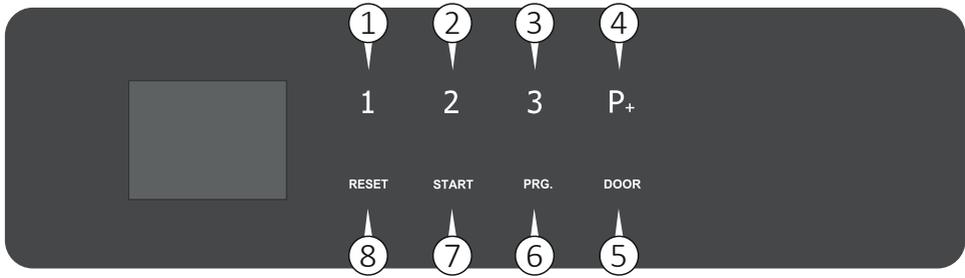

Fig. 15
To select the programs available, use key P1, P2 or P3 (see Fig. 15) depending on the most suitable program for the level of dirt of the load.
- Open the door (key 5 Fig. 15) to introduce the rack/trolley.
- Close the door and push it until the lock is activated. The door can be unlocked and opened at any time before the program starts, by pressing the DOOR key (5 Fig. 15).
To select the programs available, use key P1, P2, P3 or the key P+ (to select programs from 4 to 40) on the control panel (Fig. 15).
To start a program, press the START key (7 Fig. 15).
The message «Finish» with a green background on the display indicates that the program has been carried out correctly. Unlock the door by pressing the DOOR key (5 Fig. 15) and open it.